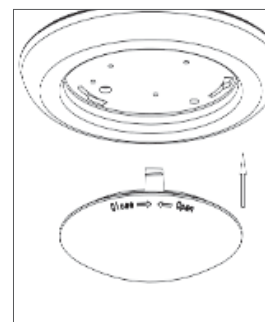

FIGURE 6
**G)** Reinstall lens and turn clockwise to lock the lens on fixture. (Figure 6)